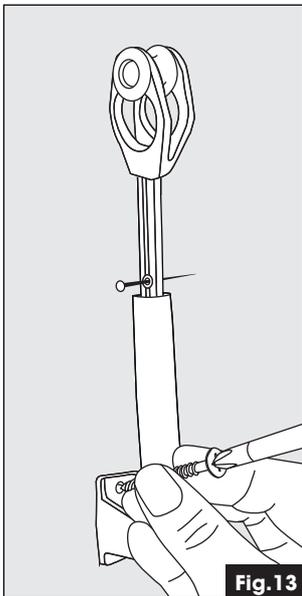

Fig. 13
**If using a White Nylon Tension Pulley:** Using the screws supplied fix the tension pulley to the wall or window sill directly in line with the pull cord (Fig. 13).